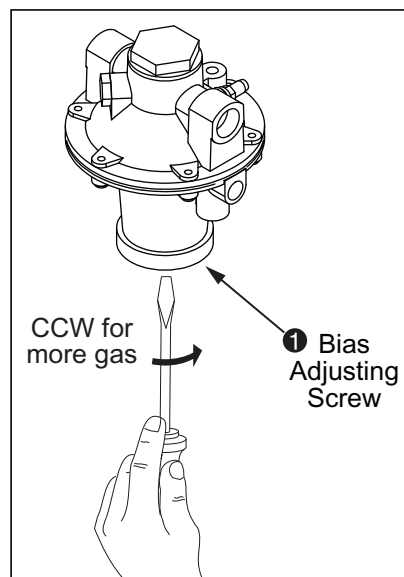

Figure 4.20. Ratio Regulator
4. If necessary, adjust the ratio regulator bias screw as shown in Figure 4.20 to obtain the proper low fire flame. If the flame cannot be viewed, adjust the bias screw to produce the minimum gas flow that will generate a steady flame detector signal of sufficient strength.